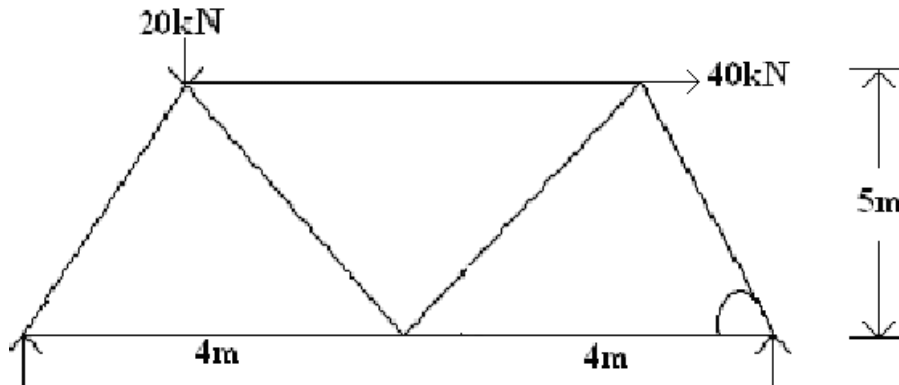

Figure 5
5. Determine the forces in various members (figure5). [16]